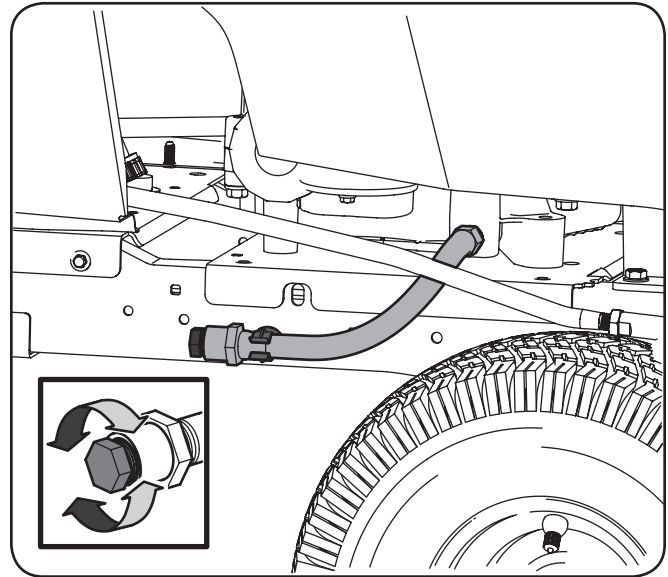

Figure 6-1
4. Remove the oil drain hose from the clip on the right side of the frame. See Figure 6-1.
5. Remove the oil drain hose plug from the end of the hose. See Figure 6-1. Drain the engine oil into the collection container.